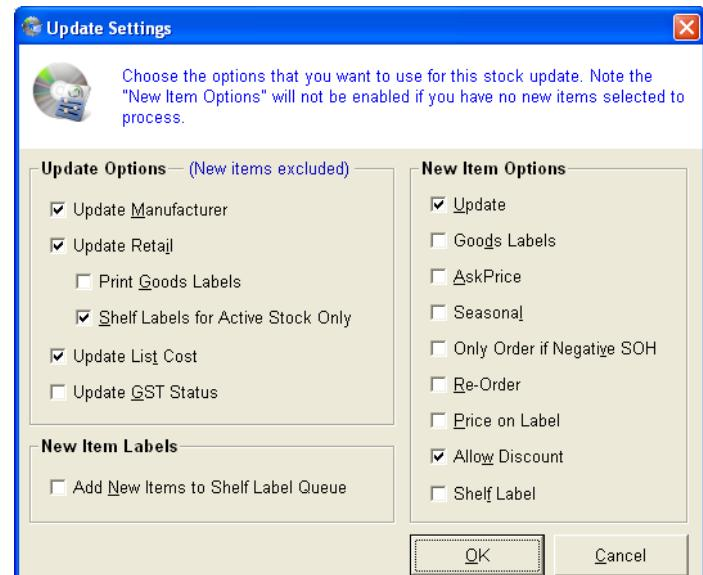

Figure 264
24. When complete select 'OK'. Selecting 'OK' will display the 'Update Settings' window (see Figure 264).